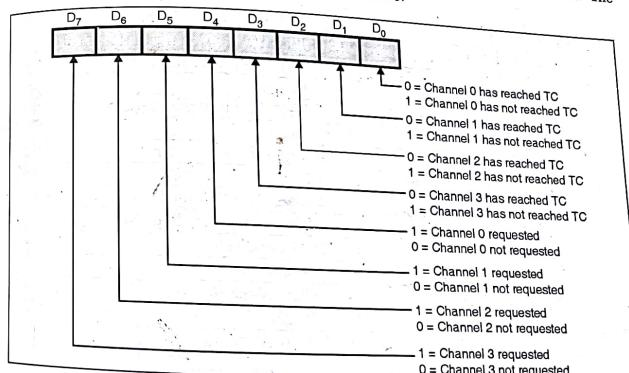

Fig. 17.5.9 : Status register
(9) Status register
- Bits 4-7 are set whenever their corresponding channel is requesting service. The format of status register is as shown in Fig. 17.5.9.